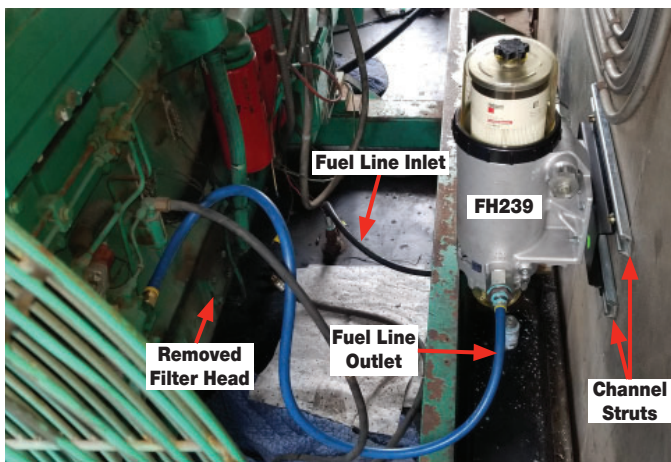

Figure 3: After 500 SE Upgrade
10. Mount the FH239 onto channel strut with 3/8" bolts and washers. QTY 4 (see figure 3)